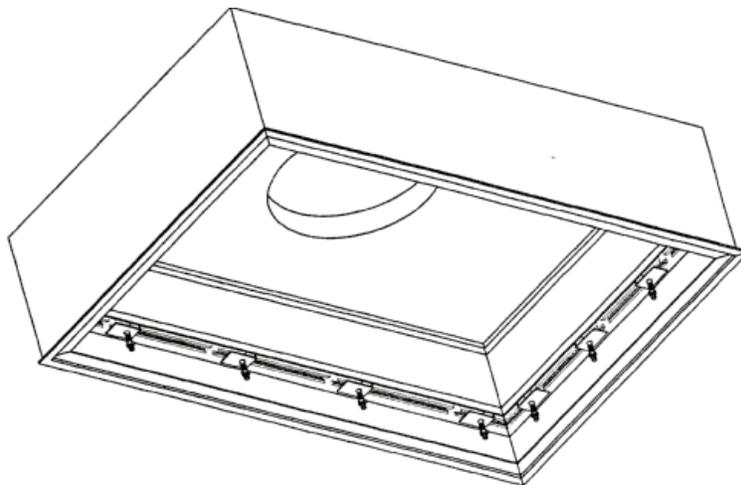

Figure 3. Retaining clip positioning prior to filter installation with "knife edge" of diffuser ready to mate with filter's gasket or gel seal.
- g. Properly position these retaining clips and bolts within extrusion's channel. The head of the bolt should be placed in the channel and slid into approximate position, evenly spacing the clips around the frame and approximately 6" from the corners. See Figure 3 for reference. Turn all clips out such that the gasket flange or gel channel will easily protrude into the knife-edge.
**Note:** For a 2'x4' diffuser, two (2) clips will be located on the short sides and four (4) clips on each long side